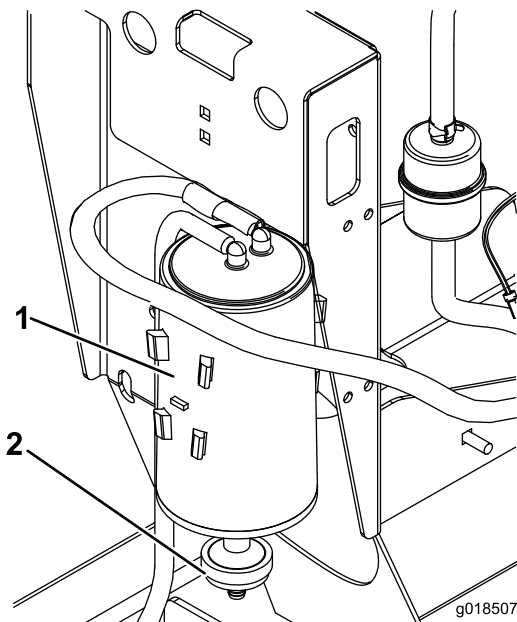

Figure 20
2. Remove and discard the carbon canister air filter (Figure 20).